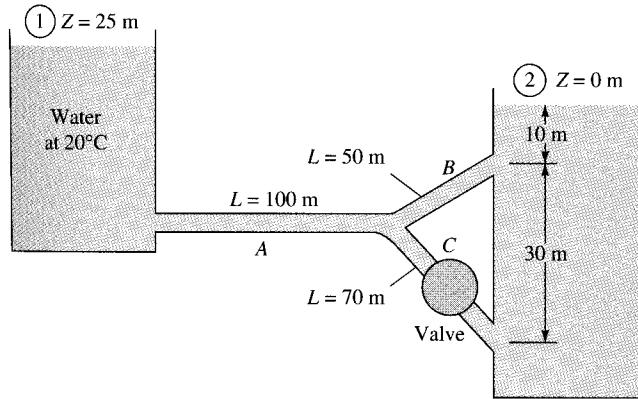

Fig. P6.115
**6.115** In Fig. P6.115 all pipes are 8-cm-diameter cast iron. Determine the flow rate from reservoir (1) if valve C is (a) closed; and (b) open, with  $K_{\text{valve}} = 0.5$ .